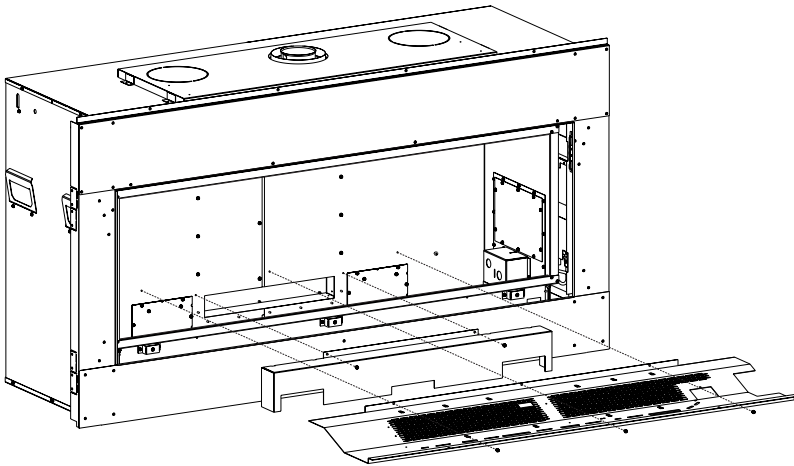

Figure 11
3. Remove burner base. See Figure 11.